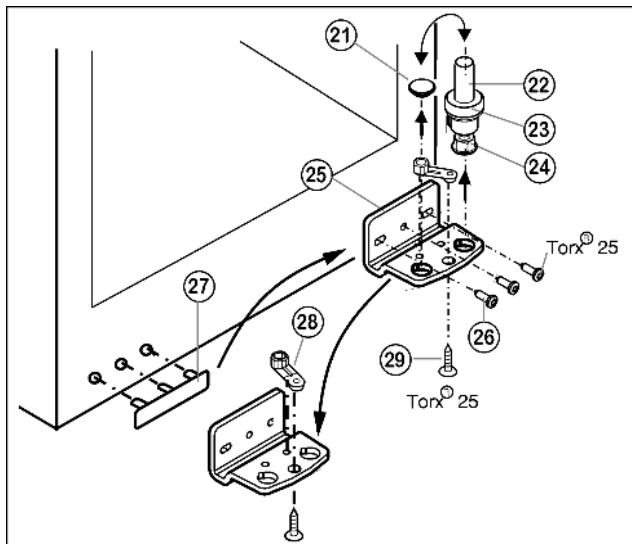

Fig. 7
- ▶ Lift out the bearing pin Fig. 7 (22) together with washer Fig. 7 (23) and adjustable-height foot Fig. 7 (24).
- ▶ Lift off the stopper Fig. 7 (21).
- ▶ Unscrew Fig. 7 (26) the turn hinge Fig. 7 (25).
- ▶ Unscrew Fig. 7 (29) the bearing element Fig. 7 (28), transfer it to the opposite location hole of the turn hinge and screw it firmly into place.
- ▶ Carefully lift off the cover on the handle side Fig. 7 (27) and transfer it to the opposite side.
- ▶ Screw the turn hinge Fig. 7 (25) firmly into place on the new hinge side, possibly using a cordless screwdriver (with 4 Nm).
- ▶ Re-insert the stopper Fig. 7 (21) into the other hole.
- ▶ Re-insert the bearing pin Fig. 7 (22) together with the washer and adjustable-height foot. In so doing, pay attention that the locating lug points backwards
- ▶ Lift the stopper (33) out of the door bearing bush and transfer it.
- ▶ Dismantle the door handle (32), stoppers (33) and pressure plates* (34) and transfer to the opposite side.
- ▶ Place the door from above onto the lower bearing pin Fig. 7 (22).
- ▶ Insert the upper turn hinge (12) in the door on the new hinge side.
- ▶ Screw the upper turn hinge (12) firmly into place (with 4 Nm)(2x Torx® 25) (13). Possibly make preliminary holes with a bradawl or use a cordless screwdriver.
- ▶ Snap the cover (10) and cover (11) into place at the opposite side.
- ▶ Align the door to the appliance housing by way of the two oblong holes in the bottom turn hinge Fig. 7 (25). To do so, unscrew the middle screw.